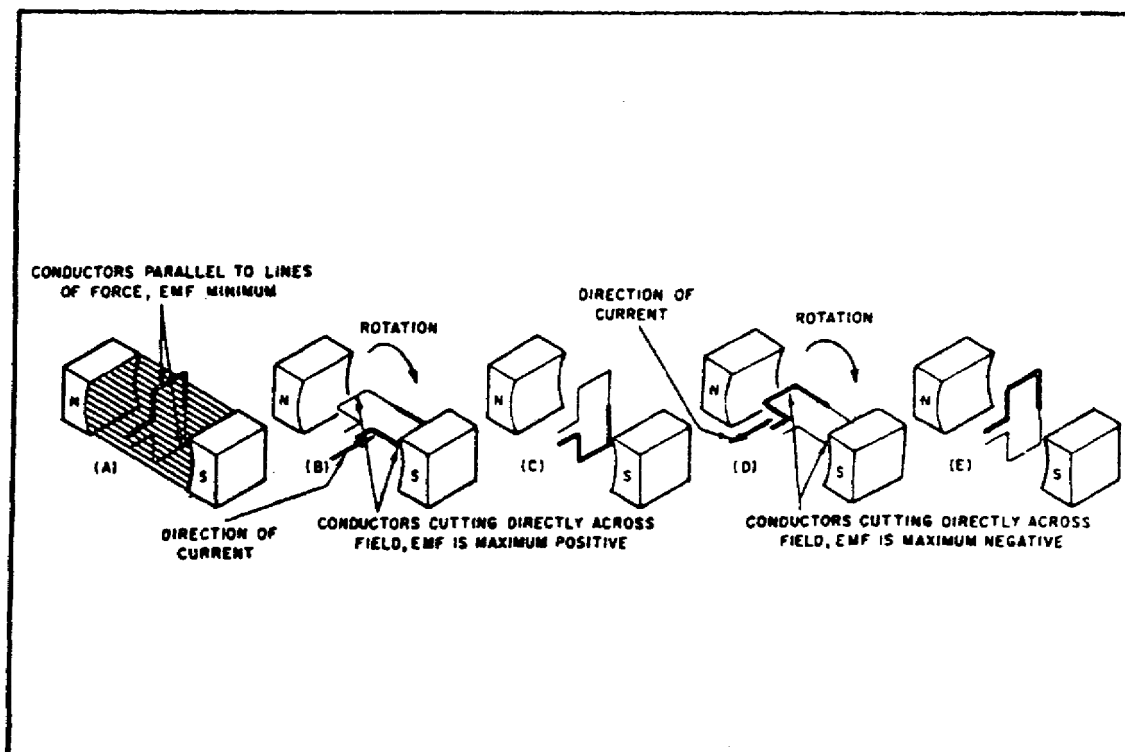
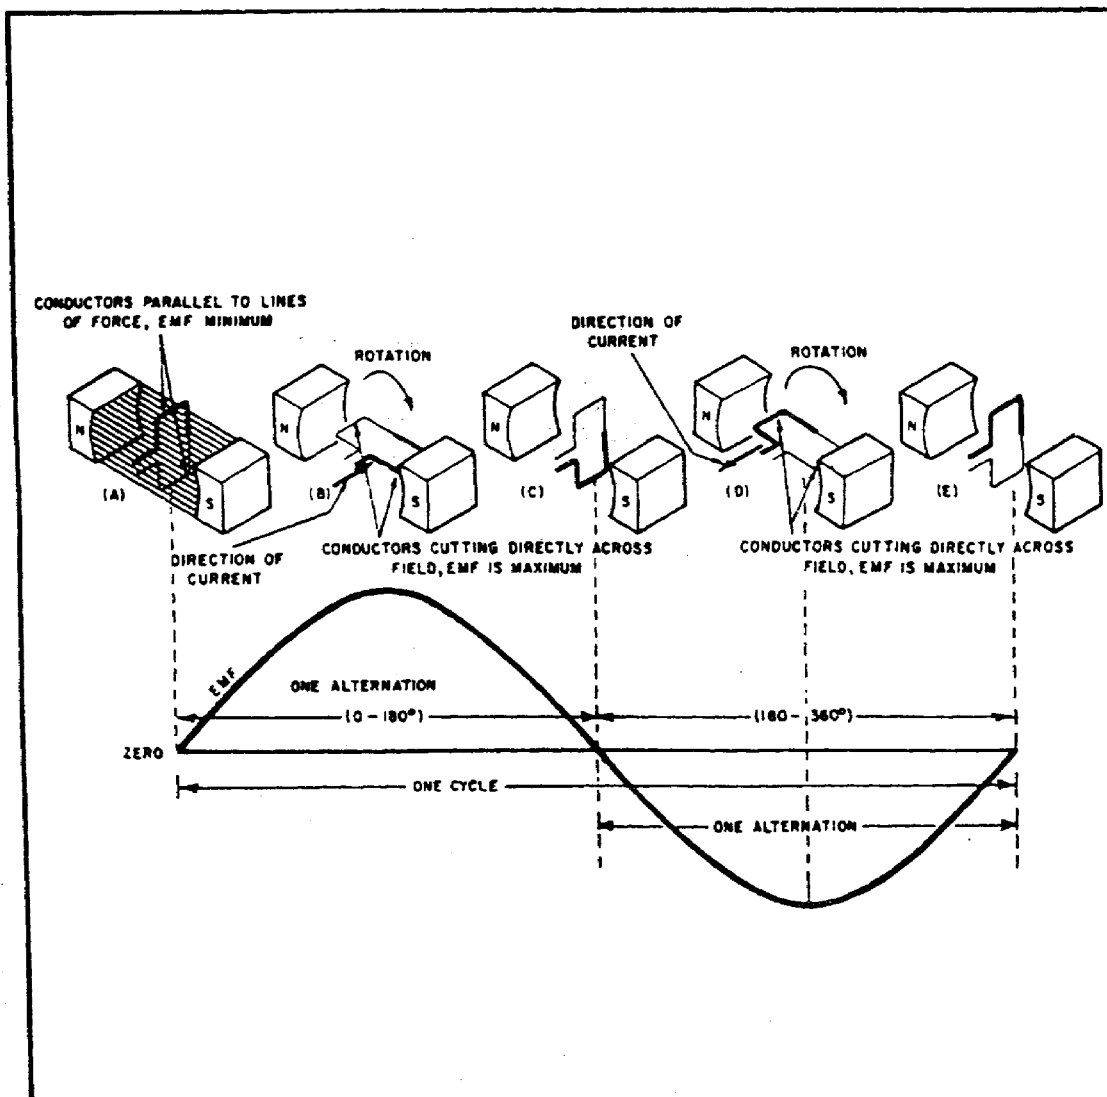

FIGURE 58. SIMPLE ALTERNATING-CURRENT GENERATOR.
FIGURE 59. BASIC ALTERNATING-CURRENT GENERATOR.
(1) *Cycle.* Figures 58 and 59 on the following two pages show a suspended loop of wire (conductor) being rotated (moved) in a clockwise direction through the magnetic field between the poles of a permanent magnet. For ease of explanation, the loop has been divided into a dark half and a light half. Notice in view A of the figures that the dark half is moving along (parallel to) the lines of force. Consequently, it is cutting NO lines of force. The same is true of the light half, which is moving in the opposite direction. Since the conductors are cutting no lines of force, no emf is induced. As the loop rotates toward the position shown in figure 59, view B, on the previous page, it cuts more and more lines of force per second (inducing an ever increasing voltage) because : it is more directly across the field (lines of force). At figure 59, view B, the conductor is shown completing one-quarter of a complete revolution, or 90°, of a complete circle. Because the conductor is now
cutting directly across the field, the voltage induced in the conductor is maximum. If the rotation from figure 59, view A and view B, on the following page, is plotted on a graph (and the points connected), a curve will start to appear.
As the loop continues to be rotated toward the position shown in figure 59, view C, it cuts fewer and fewer lines of force. The induced voltage decreases from its peak value. Eventually, the loop is moving in a plane parallel to the magnetic field, and no emf is induced in the conductor.
The loop has now been rotated through half a circle (one alternation or 180°). If the preceding quarter-cycle is plotted, it appears as shown in figure 59 (one alternation or $0-180^\circ$).
When the same procedure is applied to the second half of rotation (180° through 360°), the curve appears as shown in figure 59. Notice that the only difference is the polarity of the induced voltage. Where previously the polarity was positive, it is now negative. The sine curve shows
By applying the left-hand rule to the dark half of the loop in view B, figure 59, on page 87, one will find that the current flows in the direction indicated by the heavy arrow. Similarly, by using the left-hand rule on the light half of the loop, one will find that current therein flows in the opposite direction. The two induced voltages in the loop add together to form one total emf.. It is this emf which causes the current in the loop.
When the loop rotates to the position shown in view D, figure 59, the action reverses. The dark half is moving up instead of down, and the light half is moving down instead of up. By applying the left-hand rule once again, you will see that the total induced emf and its resulting current have reversed direction. The voltage builds up to maximum in this new direction, as shown by the curve in figure 59. The loop finally returns to its original position, figure 59, view E, at which point voltage is again at zero. The sine curve represents one complete cycle of voltage generated by the rotating loop. All the illustrations used in this topic show the wire loop moving in a clockwise direction. In actual practice, the loop can be moved clockwise or counterclockwise. Regardless of the direction of movement, the left-hand rule applies.
If the loop is rotated through 360° at a steady rate, and if the strength of the magnetic field is uniform, the voltage produced is a sine wave of voltage, as indicated in figure 59. Continuous rotation of the loop will produce a series of sine-wave voltage cycles or, in other words, an ac voltage.
(2) *Frequency.* If the loop in figure 59 makes one complete revolution each second (1 Hz), increasing the number of revolutions to two per second will produce two complete cycles of ac per second (2 Hz). The number of complete cycles of